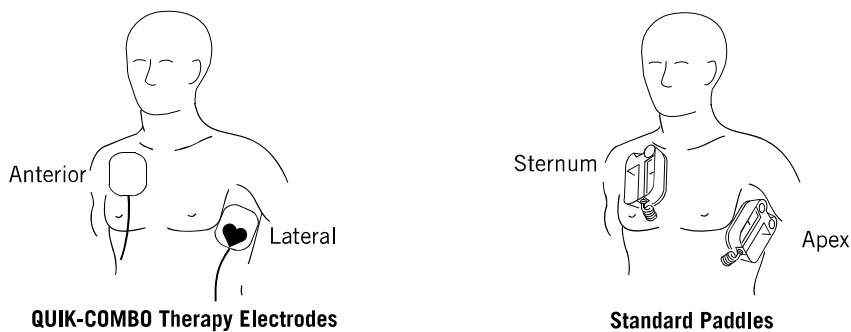

Figure 5-1 Anterior-Lateral Placement
1. Place either the ♥ therapy electrode or **APEX** paddle lateral to the patient's left nipple in the midaxillary line, with the center of the electrode in the midaxillary line, if possible. See Figure 5-1.
2. Place the other therapy electrode or **STERNUM** paddle on the patient's upper right torso, lateral to the sternum and below the clavicle as shown in Figure 5-1.